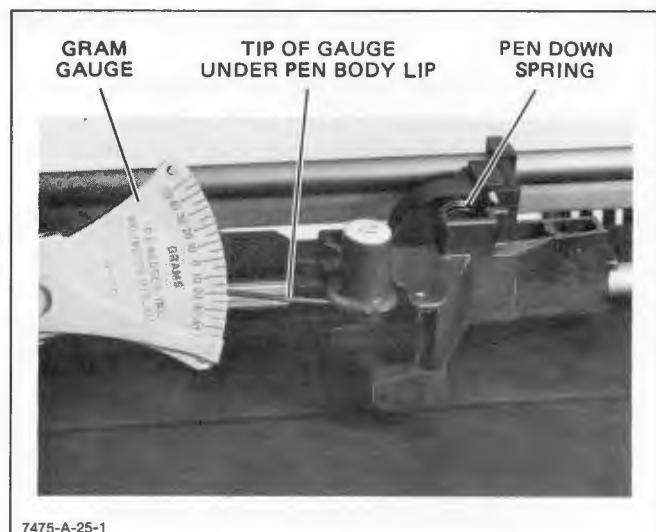

Figure 8-24. Measuring Pen Down Force
- l. Measure the pen down force by using a gram gauge. To do this; it is necessary to apply power to the plotter, select and lower a pen onto the platen. Place the tip of the gram gauge under the lip of the pen body and check that the pen just starts to lift with 12 to 28 grams of force. See Figure 8-24. If adjustment is required, refer to Section V.